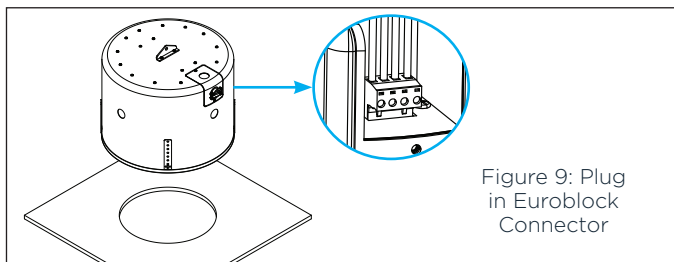

Figure 9:
- Once all the wires are terminated. Plug the Euroblock Connector into the back of the PS-C85BB loudspeaker back box (see Figure 9).